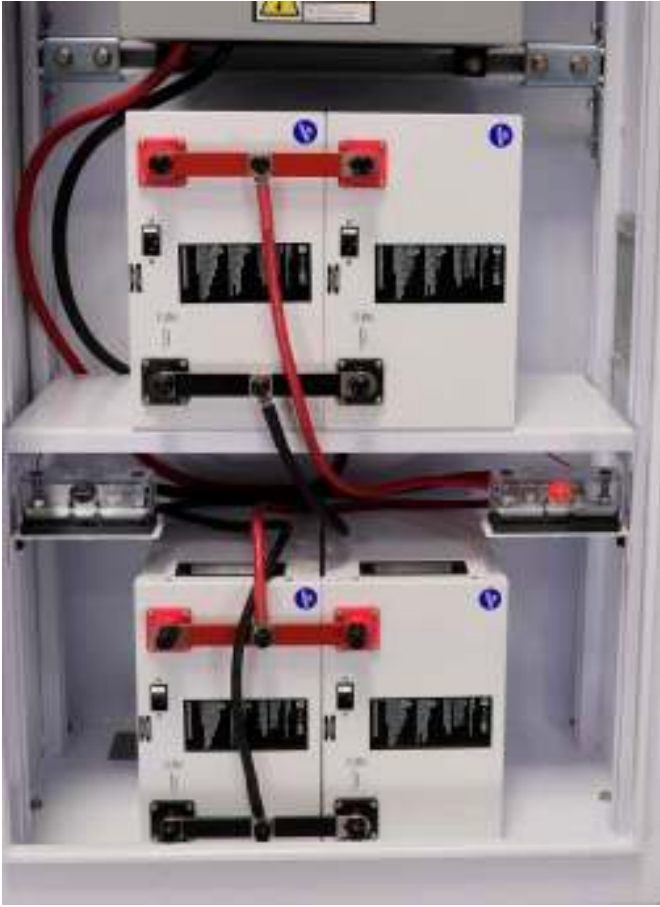

Figure 11.0a– Four PHI Battery Orientation
3. Place two PHI 3.8 batteries in the bottom of the cabinet and arrange two or three PHI 3.8 batteries on the AccESS's internal shelf. Orient the modules so that the battery terminals point toward the AccESS door, with the negative posts nearest the bottom of the AccESS enclosure. Refer to Figure 11.0a and 11.0b below:
6. Connect the included cables from the interconnecting busbars (secured to the batteries) to the 5-point terminal busbars (see above). All connections are in parallel: each positive cable connects from each interconnecting positive busbar to the positive 5-point terminal busbar, and each negative cable connects from each negative busbar to the negative 5-point terminal busbar (refer to Figure 11.0a and 11.0b above).